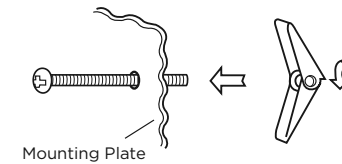

Figure 17
- Use Wood Screws ① to attach Mounting Plate to the stud or studs. Use Toggle Bolts to attach Mounting Plate through the holes at A, B, C and D; UNLESS THOSE HOLES ARE LOCATED ON THE STUD. Insert one Toggle Bolt into A, B, C and D where appropriate (these correspond to the holes of the Wall Template) and put the Toggle Nuts onto the Toggle Bolts. Figure 17.